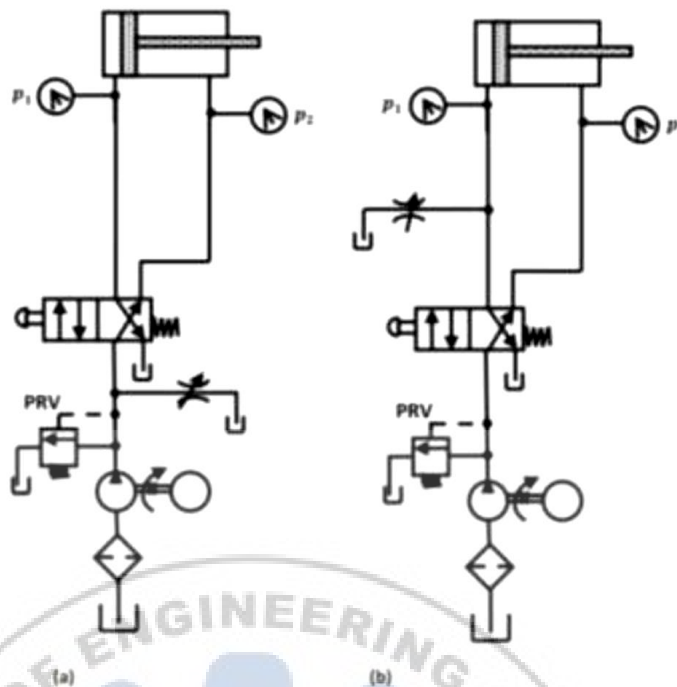

Figure 1.10 Bleed-off circuits:(a) Bleed-off for both directions and (b) bleed-off for inlet to the cylinder or motor.
Three-way valves either block or allow flow from an inlet to an outlet. They also allow the outlet to flow back to the tank when the pump is blocked, while a two-way valve does not. A three-way valve has three ports, namely, a pressure inlet (P), an outlet to the system (A) and a return to the tank (T). Figure 1.10 shows the operation of a 3/2-way valve normally closed. In its normal position, the valve is held in position by a spring as shown in Fig. 1.10(a).
In the normal position, the pressure port P is blocked and outlet A is connected to the tank. In the actuated position shown in Fig. 1.10(b), the pressure port is connected to the tank and the tank port is blocked.
Figure 1.10 3/2-way DCV (normally closed). (a) Ports A and T are connected when force is not applied (valve unactuated). (b) Ports A and P are connected when force is applied (valve actuated).
Compared to meter-in and meter-out circuits, a bleed-off circuit is less commonly used. Figure 1.10 shows a bleed-off circuit with extend stroke control. In this type of flow control, an additional line is run through a flow-control valve back to the tank. To slow down the actuator, some of the flow is bleed off through the flow-control valve into the tank before it reaches the actuator. This reduces the flow into the actuator, thereby reducing the speed of the extend stroke. The main difference between a bleed-off circuit and a meter-in/meter-out circuit is that in a bleed-off circuit, opening the flow control valve decreases the speed of the actuator, whereas in the case of a meter-in/meter-out circuit, it is the other way around.